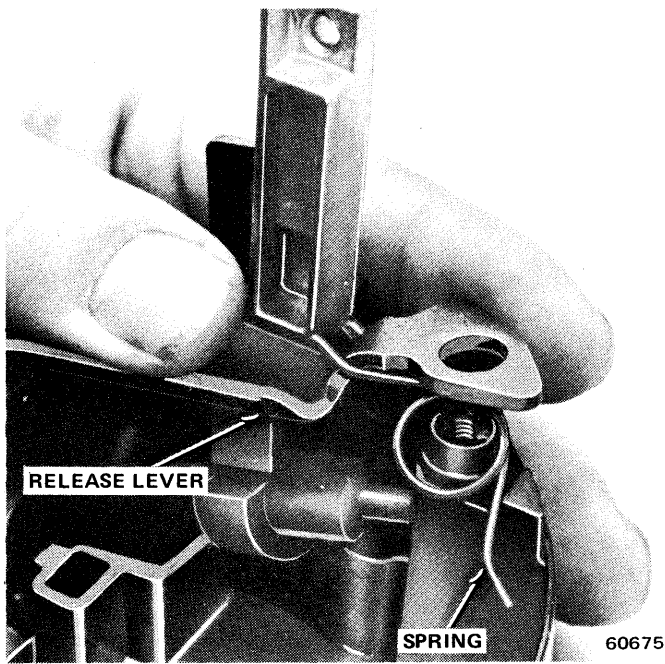
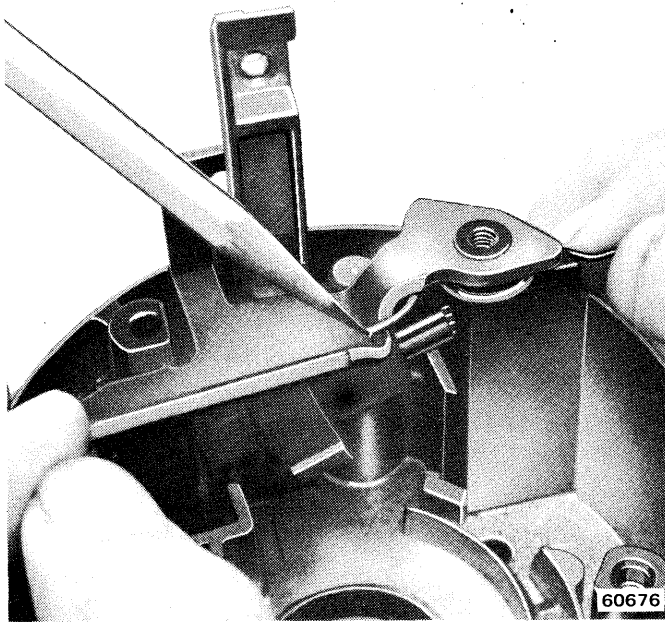

Fig. 11-18 Installing Key-Release Lever and Spring
Fig. 11-19 Positioning Key-Release Lever Spring
- (6) Install key-release lever return spring over post in housing (fig. 11-18). Insert release lever finger in lock rack slot and position hole in lever over threaded hole in housing post (fig. 11-19). Be sure inner end of spring contacts release lever.